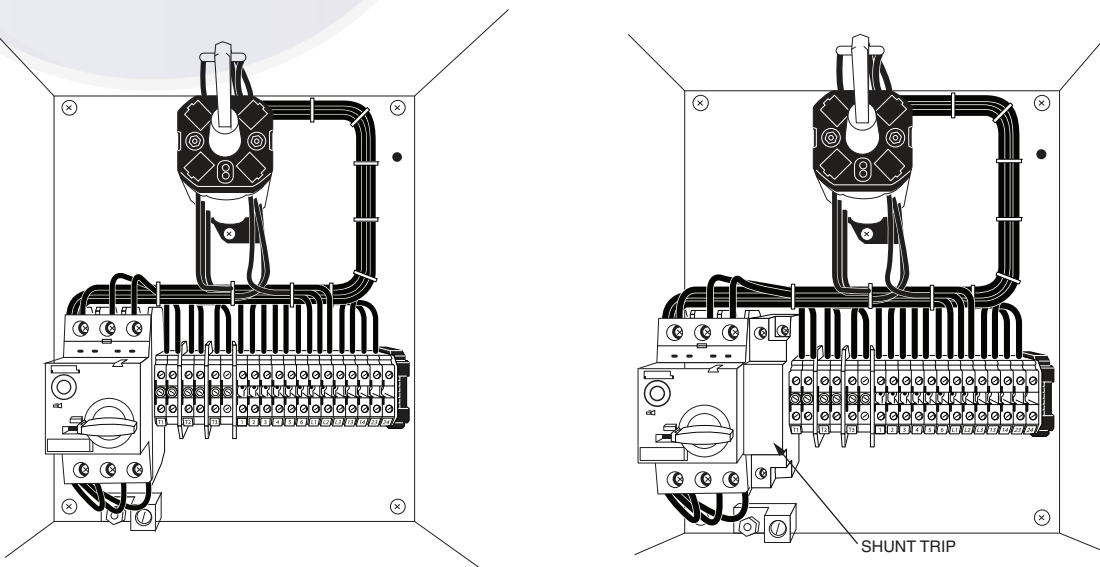

Fig. 122 — MMS Before and After Shunt Trip Installation
6. Reconnect the wiring. Figure 122 shows the MMS before and after shunt trip installation.